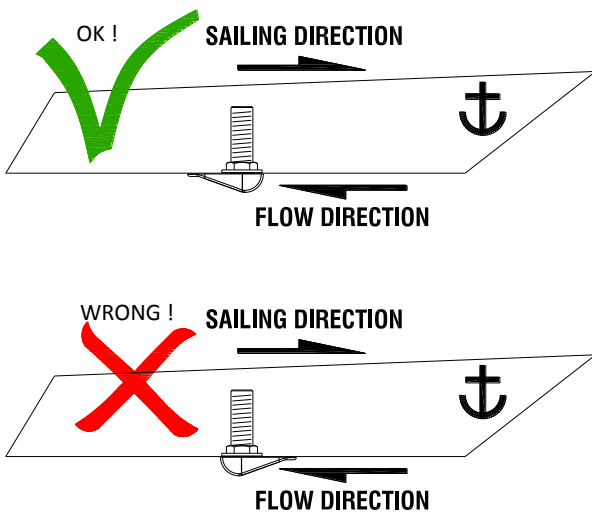

Figure 10: Installing the water intake
This should not be done in the case of a generating set! When sailing at higher speeds, water will be forced into the inlet and your generating set will overflow! (see Figure 10).
set from being flooded by cooling water and should be installed as close to the generating set as possible. The lock must be large enough to hold the entire water volume held in the hose from the top of the goose neck to the water lock. The water lock must be installed at the lowest point of the exhaust system (see Figure 10, ref. 1).